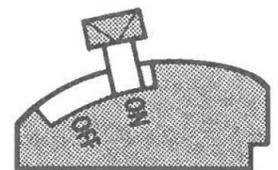

Figure 2
- Move selector arm to the "on" position, (see figure 2), and set room thermostat to desired temperature. Allow burner to cycle on and off.